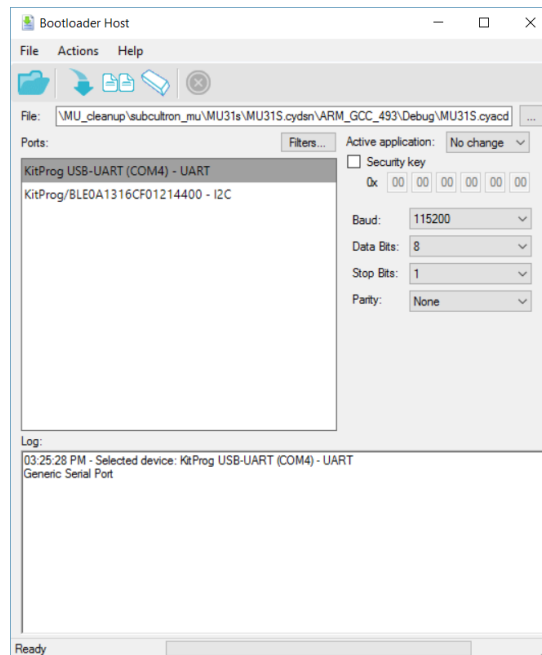

Figure 2.1: Setting up Bootloader Host
4. Select the correct COM port and adjust settings to match the ones in Figure 2.1.